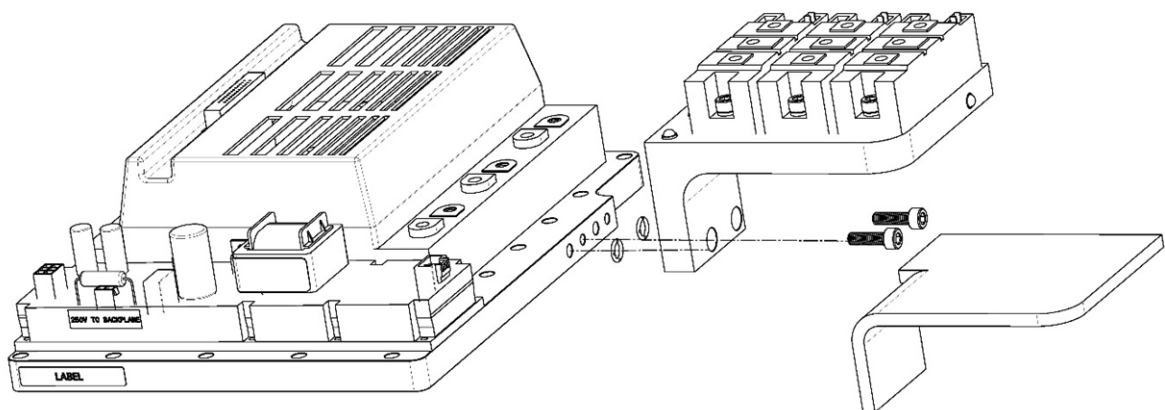

Figure 21 – SCR Cooling Manifold Removal
38. Remove the two (2) screws indicated in Figure 21 (SCR Cooling Manifold) and carefully remove the SCR Cooling Manifold. Retain for use with the new Inverter assembly.